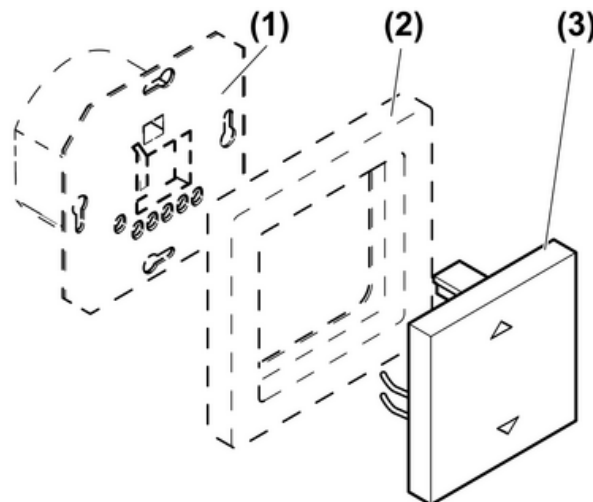

Figure 1: Device components
- Mount cover (3) with frame (2) onto the Venetian blind control (1) (Figure 1).